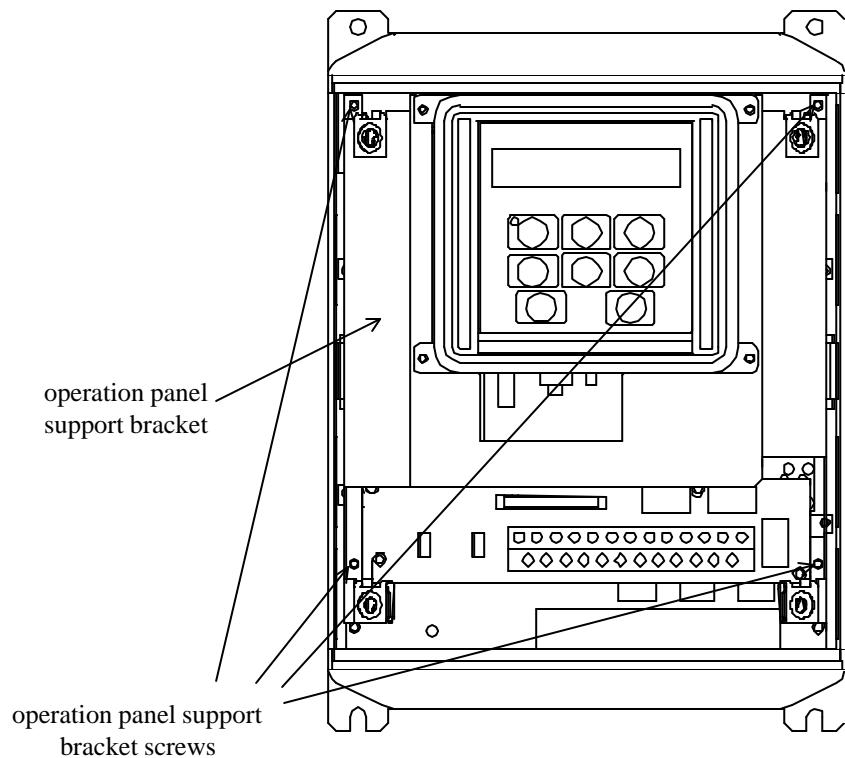

Figure 1: G3 with front cover removed
5. Loosen the 4 screws attaching the G3's operation panel support bracket to the control board support bracket, and then remove the operation panel and support bracket as a unit (refer to Figure 1).